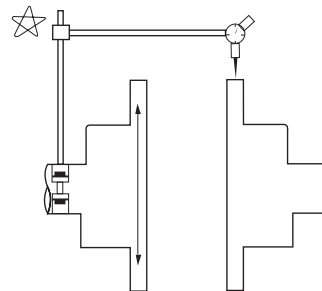

Fig. 2
- 편심을 확인합니다.(Fig.2)
- Parallel misalignment(Fig.2)
- To measure parallel misalignment of shafts, fix a dial gauge on the driving side hub and, while rotating the driving shaft, read the dial gauge at the periphery of the driven hub. A parallel misalignment of 2mm per 1,000mm distance between flange faces (D) results in an angular misalignment of 0.1°